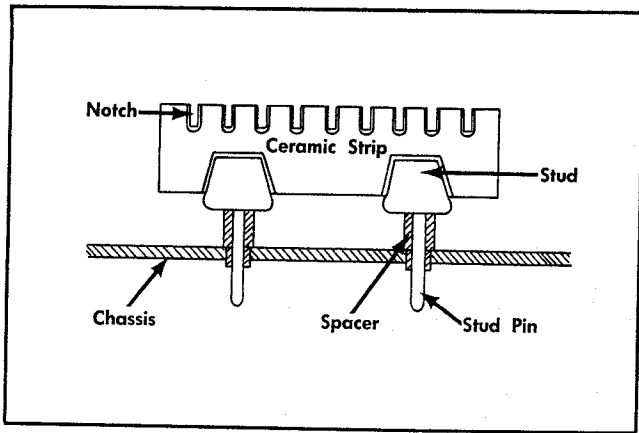

Fig. 4-4. Ceramic terminal strip assembly.
**Ceramic Terminal Strip Replacement.** A complete ceramic terminal strip assembly is shown in Fig. 4-4. Replacement strips (including studs) and spacers are supplied under separate part numbers. However, the old spacers may be reused if they are not damaged. The applicable Tektronix Part Number for the ceramic strips and spacers used in this instrument are given in the Mechanical Parts List.